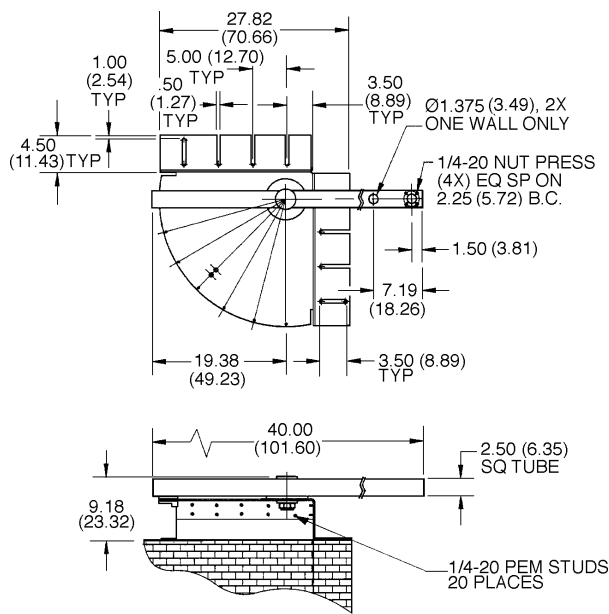

Figure 4. PP300 Dimension Diagram
2. Place the corner mount on the parapet wall where desired. Mark the drill hole pattern through the eight mounting slots (refer to Figure 4 or 5).
Dimensions:	See Figures 4 and 5